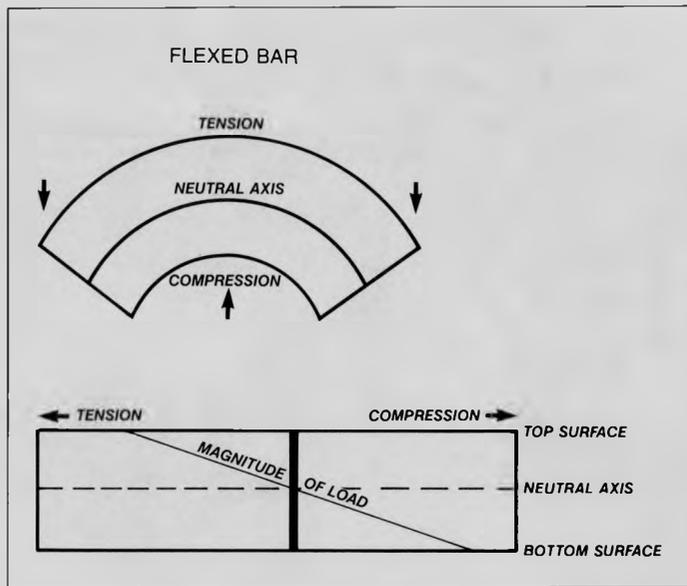

FIGURE 1: Flexed bar and corresponding graph showing comparative magnitudes of tensile and compressive loading.
ing loads where the maximum loading is less than the tensile yield strength of the material. Imagine a bar that is in a flexed mode (FIGURE 1). We know intuitively, and can easily prove both mathematically and empirically, that in the tension mode the layer of material furthest from the neutral axis experiences the greatest degree of elongation, and therefore the highest level of stress. This is conceptualized in the graph in FIGURE 1. Because higher levels of stress are almost always associated with a faster rate of failure, it's no surprise that fatigue cracking al-
■ FIGURE 1: This figure shows, for one revolution of the crank during steady-state riding: the crank orientation as the radiating lines; the pedal and its orientation as the short bold line; and the magnitude and orientation of the resultant pedaling force at each crank position by the length and direction of the arrows. The shaded area (the sector of interest) corresponds to the part of the pedaling cycle the riders were to modify.
FIGURE 1 presents a typical pattern of force application for a rider who is cycling at a steady rate and intensity. It can be seen that the magnitude and direction of the applied forces vary through the pedaling cycle. Note specifically that during the recovery phase, or second 180 degrees of the crank revolution, the forces are applied in the opposite direction to crank rotation. This requires that some of the other leg's propulsive forces be used to overcome this retarding force.
Rather than attempt to modify the pedal stroke over the whole recovery phase, we limited the riders' efforts to a portion of the cycle (FIGURE 1). The sector of interest is 90 degrees of crank rotation, beginning at a crank angle of 225 degrees after TDC (top dead center) and continuing to 315 degrees after TDC. The subjects were instructed to reduce the forces applied to the pedals in this sector to zero.